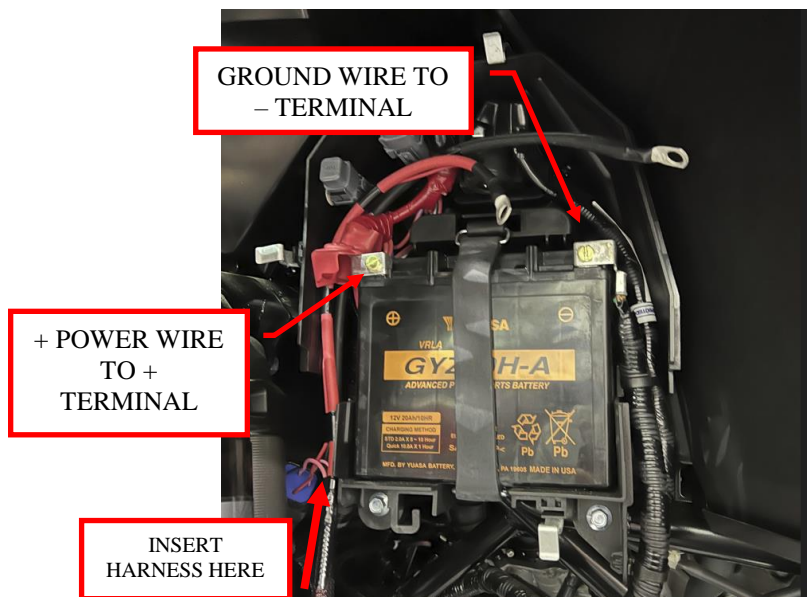

Figure 11: Connect the Audio Shade harness to the battery.
9. Once in the wheel well, route the audio shade harness into the opening on the lower left corner of the battery compartment. Connect the red power wire to the positive terminal of the battery. Connect the black ground wire to the negative terminal of the battery. See Figure 11.